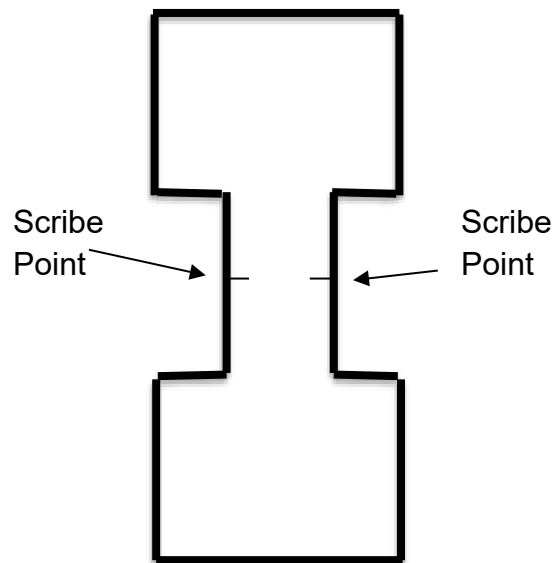

Figure 3: Scribe points example
- 1) Make two small scribe points down the middle of two samples shown in Figure 3.